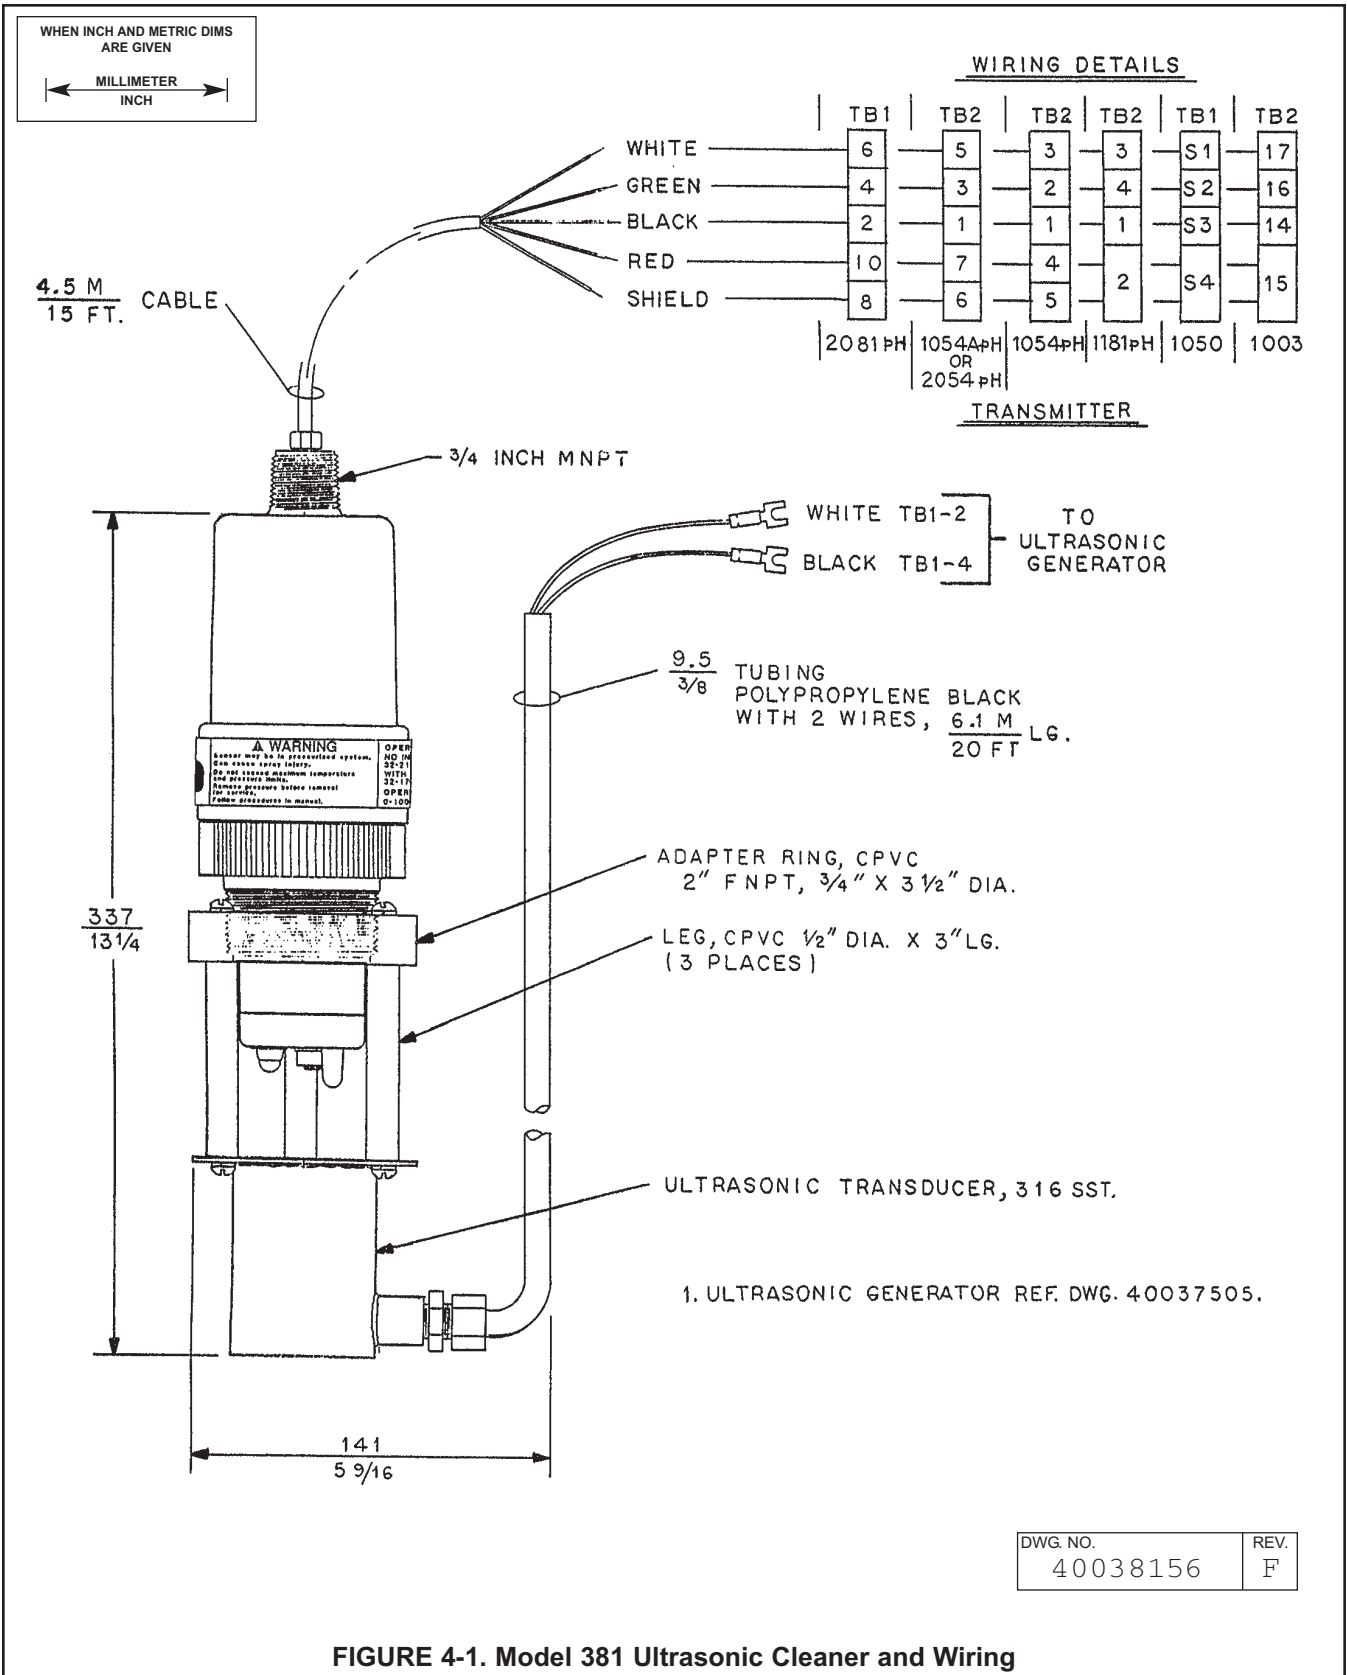

FIGURE 4-1. Model 381 Ultrasonic Cleaner and Wiring
1. **Mechanical Installation.** Although the generator is designed to be located in a process environment, corrosive atmospheres and excessive vibration should be avoided if possible. The ultrasonic transducer is shipped loose along with mounting hardware and mounting instructions. Check to make certain all connections are secure. Refer to Figure 4-1 and 4-2 for mounting dimensions and select a convenient location for the generator.